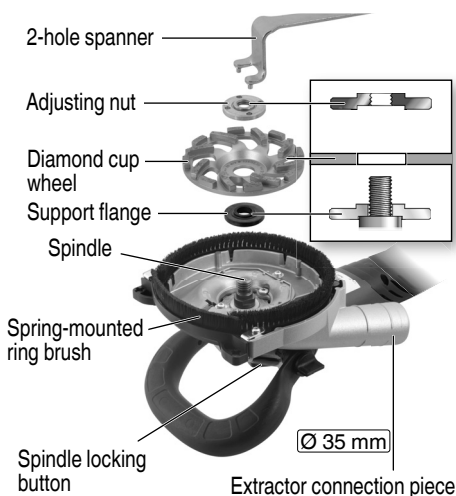

Fig. 3
1. Locking the spindle (Fig. 3)
2. Fitting/removing the diamond cup wheel (Fig. 3)